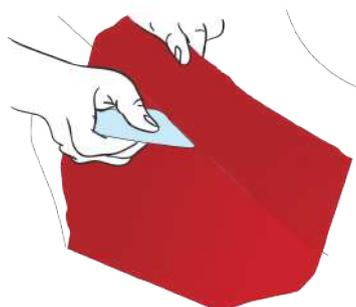

Figure 39
- › Trace the contours of the area with your finger. Lift the vinyl of the adjacent part and drag it into the hollow using a squeegee so as to mark the seal edge. (FIG. 39)